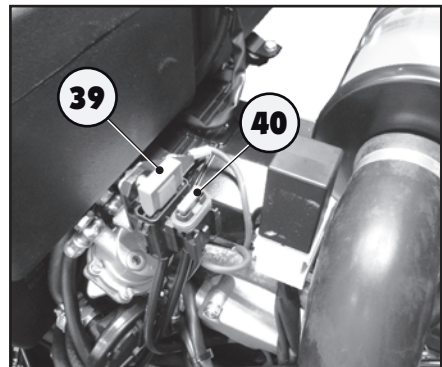

Fig. 6.41
A 30A fuse (39) and a 5A fuse (40) for general protection of the cab electrical system are also installed in the engine compartment (Fig. 6.41).